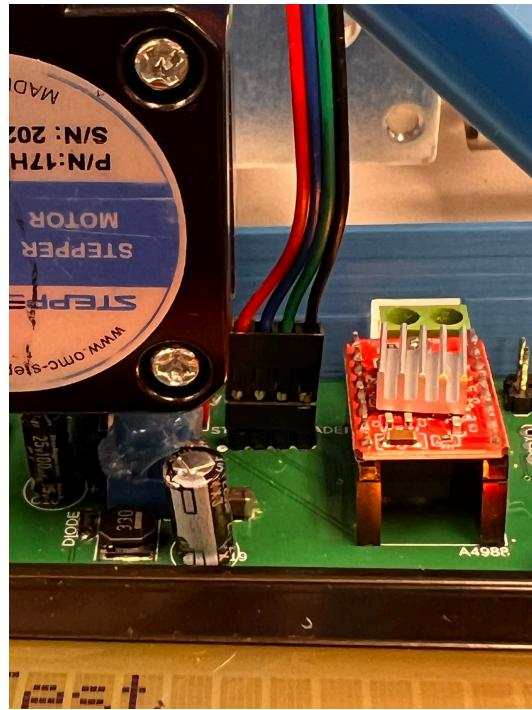

Figure 1.10: Stepper Motor Wire Connections (JL)
For the stepper motor, ensure the wires are connected in this order: red, blue, green, and black. See figure 1.10 for more details (JL).